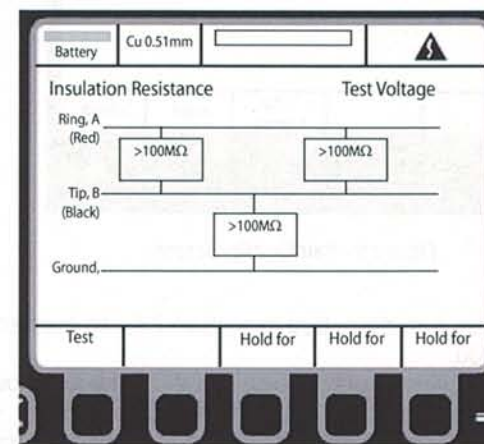

Figure 8 - Insulation Resistance screen
3.4 Measuring Insulation Resistance (Figure 8)